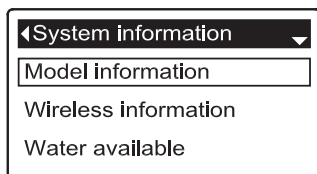

FIG. 115
3. Press the SELECT (O) button to display the System information menu (See Figure 115).
7. When finished viewing an information screen, press the SELECT (O) button. The display will go back to the System information menu (Figure 115). It will also exit automatically if no buttons are pressed for four minutes.